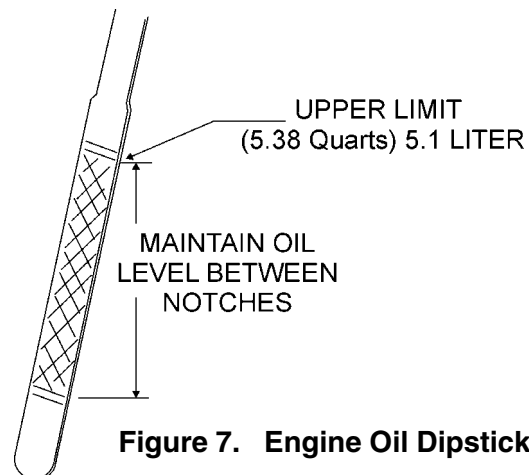

Figure 7. Engine Oil Dipstick
3. The oil level must be between the two notches on the dipstick as shown in Figure 7.